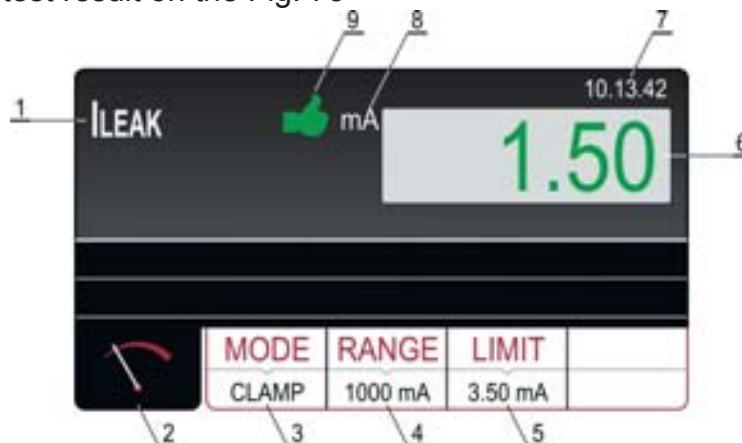

Fig. 73 : Visualization of ILEAK test result
8. Start the measurement by pressing the **START/STOP** key. The measurement will start to run and will be stopped after pressing the **START/STOP** key again. Measurement result will be currently displayed in green color if it is lower than or equal to set limit value or in red color if it is higher than set limit value. Final result will be equipped with green 🍏 symbol and with acoustic sound if it is OK or with red 🚫 symbol and with longer acoustic sound if it is not OK. See the display outlook with test result on the Fig. 73